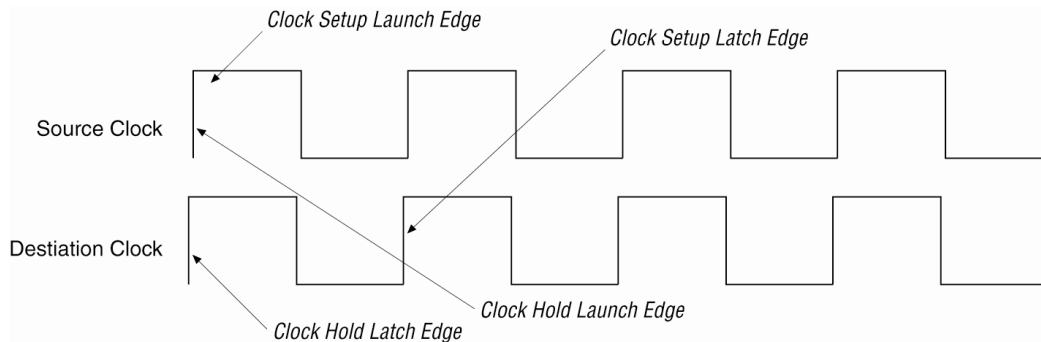

Figure 2
The *Clock Setup Relationship (SR)* between the source and destination register is the time between the setup launching clock edge and the setup latching clock edge (see Figure 2).
The *Clock Hold Relationship (HR)* between the source and destination register is the time between the hold launching clock edge and the hold latching clock edge (see Figure 2).